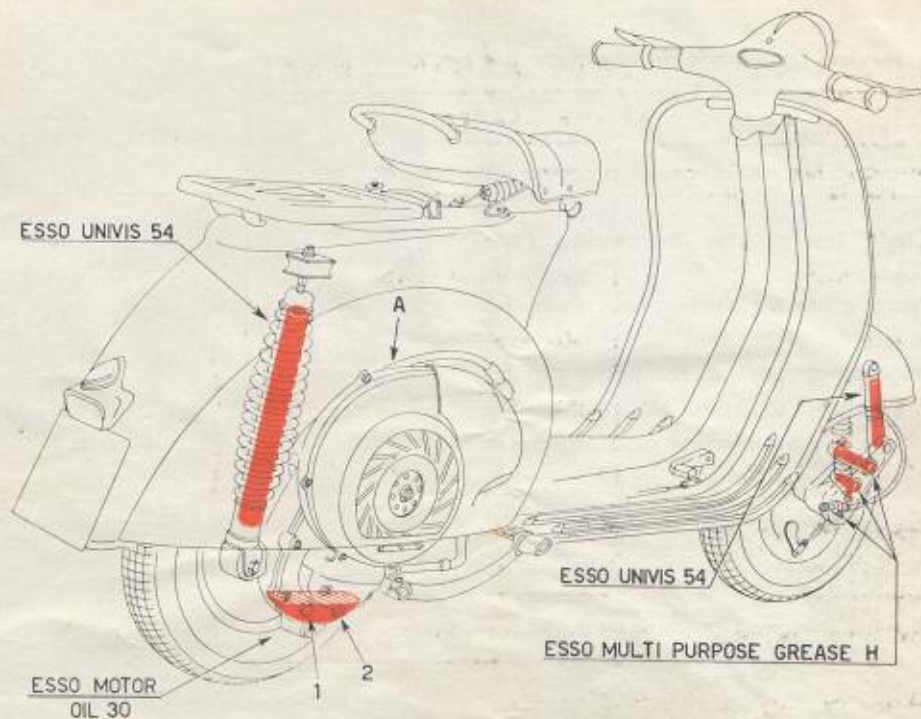

Fig. 20 - Lubrication scheme
1) - Check oil level in gear box by unscrewing on the crankcase the level screw marked « OLIO » (see Fig. 20, No. 1). The scooter standing upright, oil should just be about to flow out.